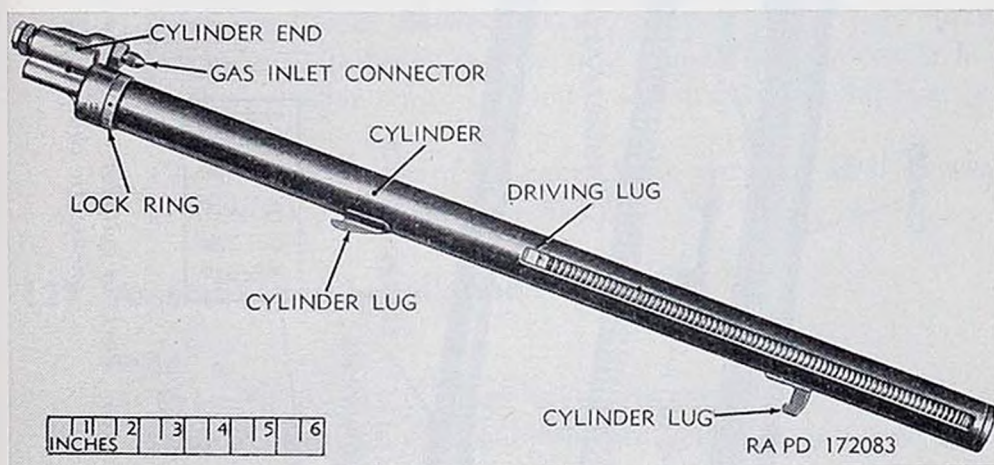
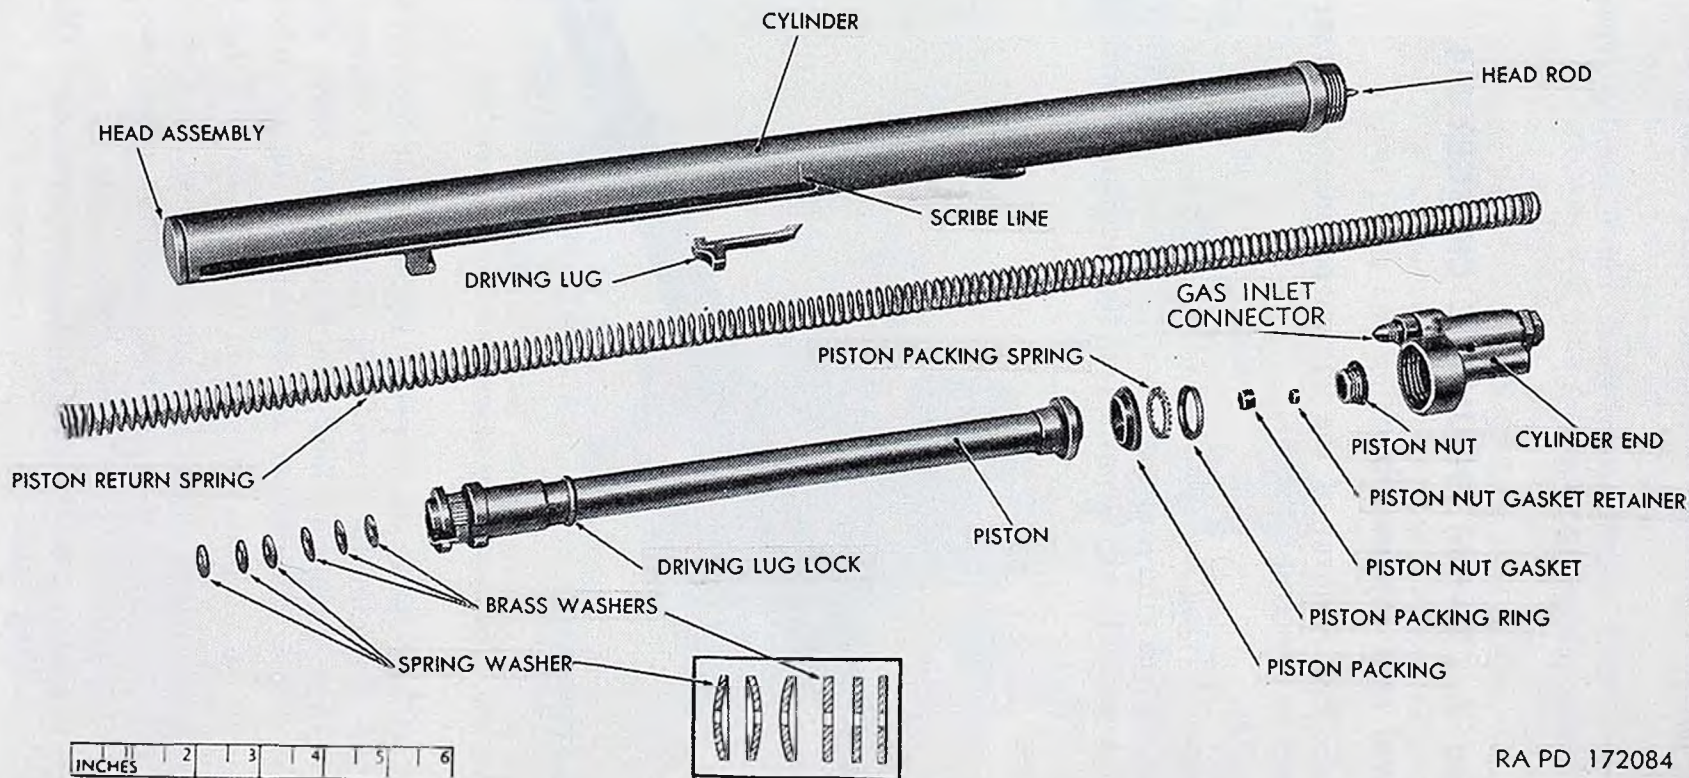

Figure 133. Disassembly of 20-mm pneumatic charger M4.
Figure 134. Parts of cylinder and piston assemblies—20-mm pneumatic charger M4
- (1) Remove driving lug (par. 18b(1)).
- (2) Back off lock ring and unscrew cylinder end (fig. 133). The piston assembly will be pushed out by the piston return spring (fig. 134).
- (3) Remove the three steel spring washers and all the brass washers from inside piston (fig. 134). Each charger has three steel spring washers; the number of brass washers varies and is determined at assembly during manufacture.
- (4) Unscrew gas inlet connector from the cylinder end (fig. 134).
- (5) Disengage tang of piston packing ring from the piston nut, unscrew the piston nut, and remove piston nut gasket and piston nut gasket retainer (fig. 134).
- (6) Remove piston packing ring and piston packing. Discard piston packing ring.
- (1) Prior to assembly, clean all parts with a clean cloth and then wipe them with a cloth dampened with preservative lubricating oil (special).
- (2) Insert piston packing (round end leading) into head of piston (fig. 134).
- (3) Insert the piston packing spring (fig. 134).
- (4) Insert new piston packing ring into piston packing spring (fig. 134).
- (5) Insert piston nut gasket retainer and piston nut gasket into piston nut, screw nut into piston head, and engage tang of piston packing ring with piston nut (fig. 134).
- (6) Hold the cylinder vertical, with head rod pointing up, slip the steel washers around head rod (washers must be in reversed positions to give spring effect), and follow with the brass washers (fig. 134). Slip the piston (open end lead-
- ing) around the head rod (fig. 134) and turn the unit upside down and remove cylinder.
- (7) Insert the piston return spring into the piston (fig. 134), while holding piston in vertical position, open end up.
- (8) Hold cylinder in vertical position, directly above open end of piston, with head rod pointing down into piston. Press cylinder down against spring pressure until rod passes through the washers and the opening in the piston head and screw cylinder end into cylinder (fig. 134).
- (9) Install driving lug (par. 18b(1)).
- (10) Adjust stroke position of operating face of driving lug by screwing and unscrewing end until lug face is alined with scribed line near slot on cylinder and then back off end until it is at right angles to slot in cylinder and gas inlet connector and cylinder lugs are on opposite sides of the cylinder (fig. 133).
- (11) Screw lock ring tightly against the cylinder end (fig. 133).